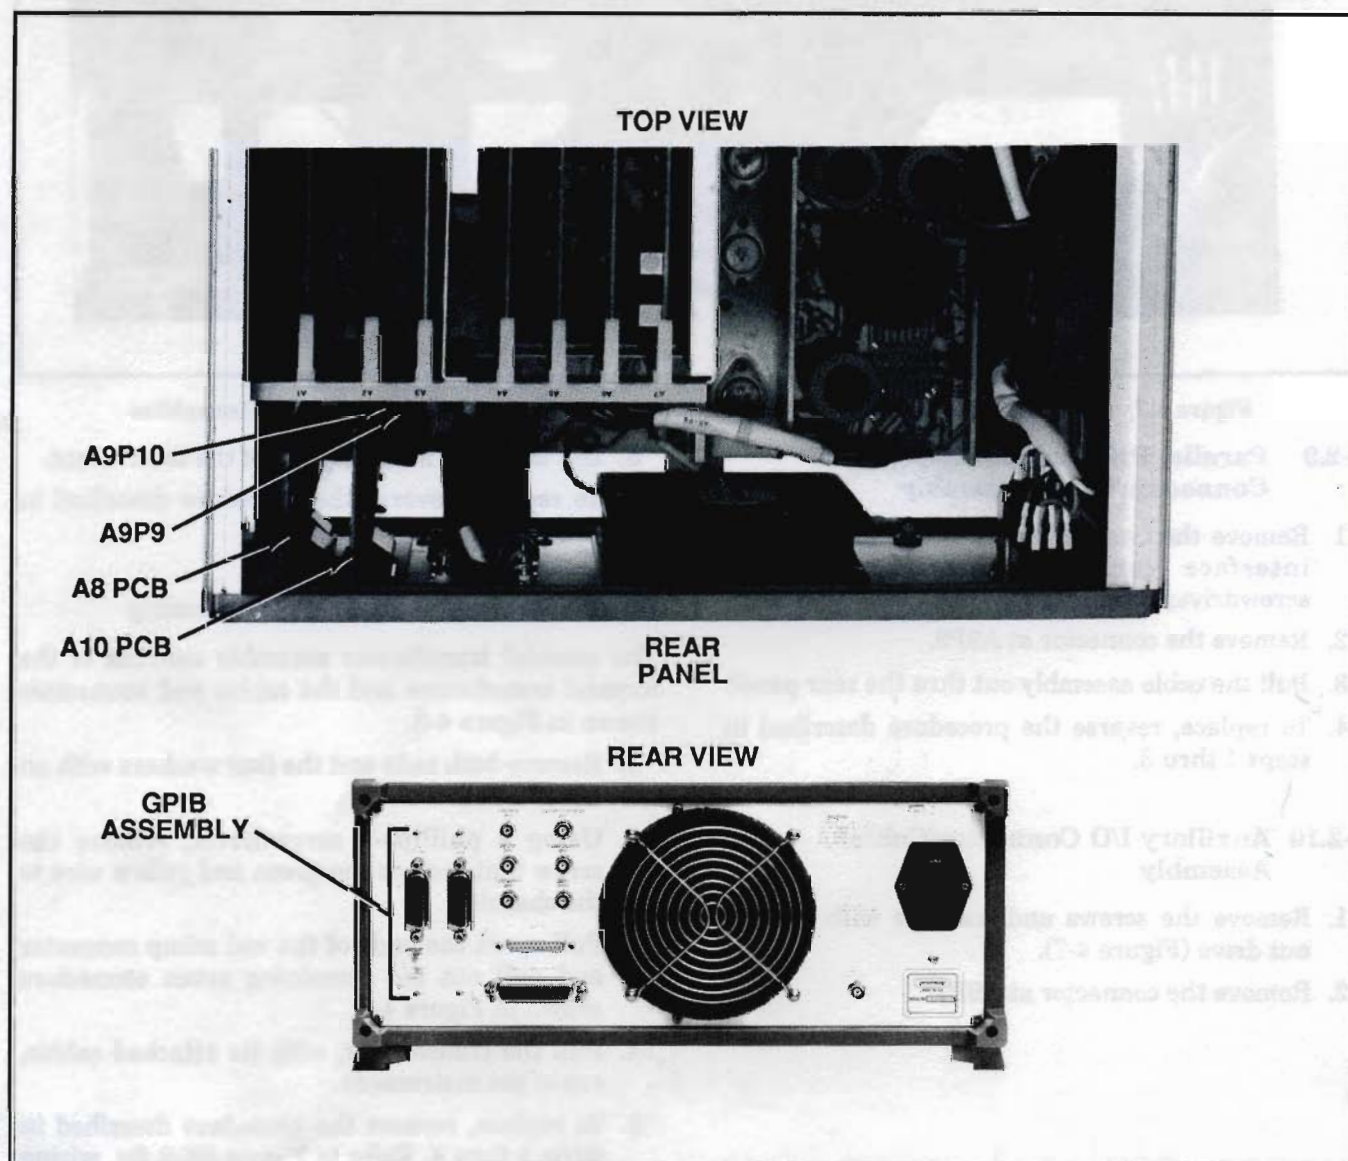

Figure 4-6. Replacing the GPIB (A8 and A10 PCBs) Assembly
1. Using a phillips-1 screwdriver, remove the four screws that attach the GPIB assembly to the rear panel (Figure 4-6).